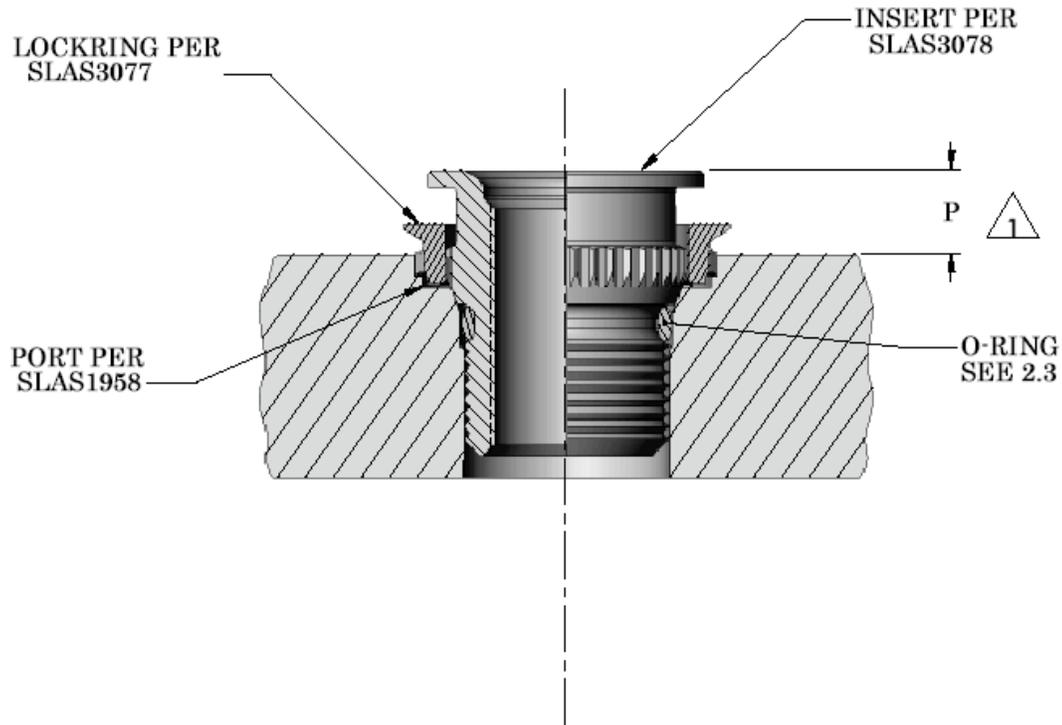

FIGURE 1 - INSTALLED INSERT AND LOCKRING
2.2. Inserts per SLAS3078 installed per this document into ports per SLAS1958 shall have a stand-off per dimension “P” in figure 1 and table 2.